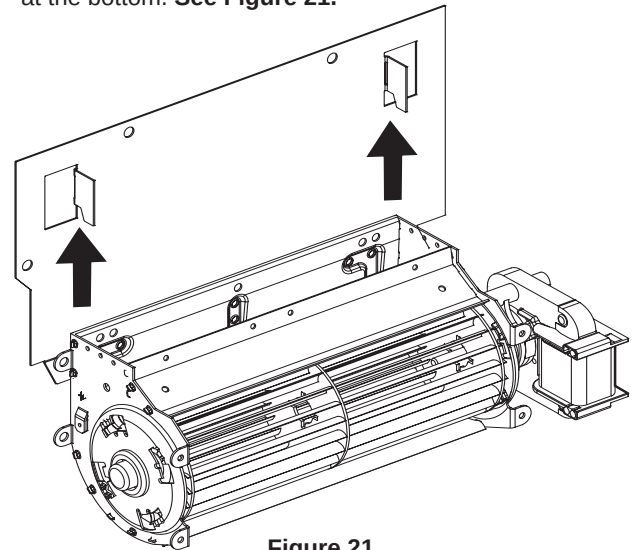

Figure 21
5. The blower plate is on the left side of the fireplace. Slide the blower up into the tabs. Secure it into place with the Velcro at the bottom. See Figure 21.